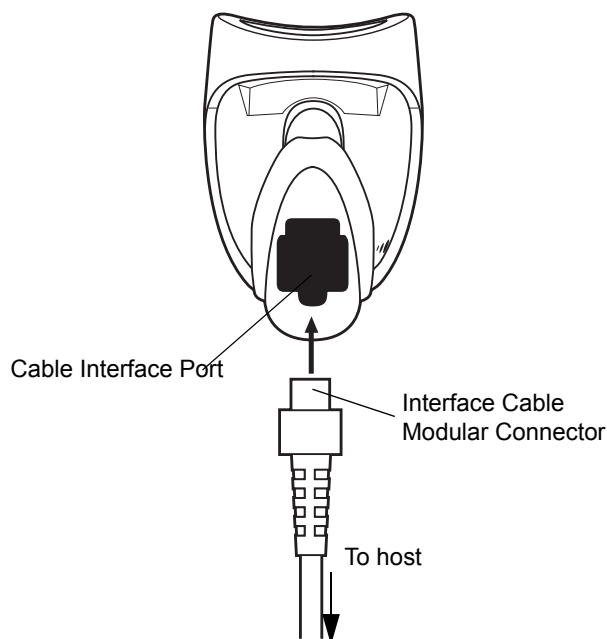

Figure 1-2 *Installing the Cable*
1. Plug the interface cable modular connector into the cable interface port on the bottom of the scanner handle. (See Figure 1-2.)